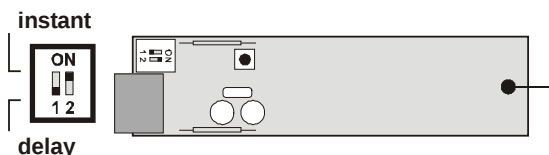

Figure: 2 The JA-60N transmitter
5. To enroll the barrier to a Jablotron alarm system insert its battery into the RX unit (white mark) while the receiver (JA-63KR, UC-260 etc) is in enrollment mode (see also the installation manual of the receiving unit). Set the reaction of the barrier by DIP switch number 1 on the JA-60N transmitter (see Figure 2):